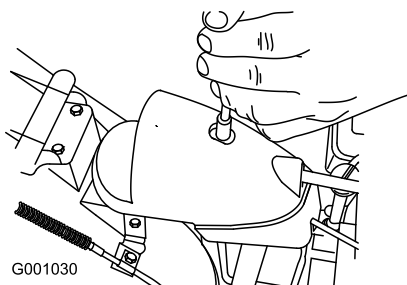

Figure 54
1. Remove the fastener on the gear cover (Figure 54), lift the front of the cover up, and slide it back and out of the way.